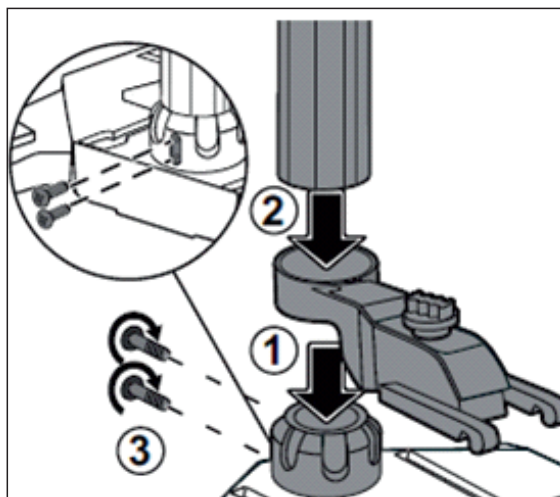

Рис. 2/ Fig. 2
- Place the base (1) on a flat horizontal surface;
- Install the column with the bracket onto the base (1) as shown in Figure 2;